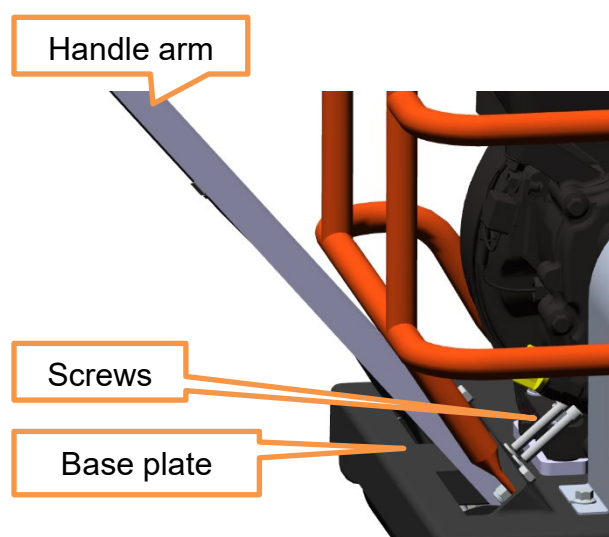

Figure 5:
4. Unscrew the bolts holding the handle arm to the base plate and remove the handle arm (figure 5).